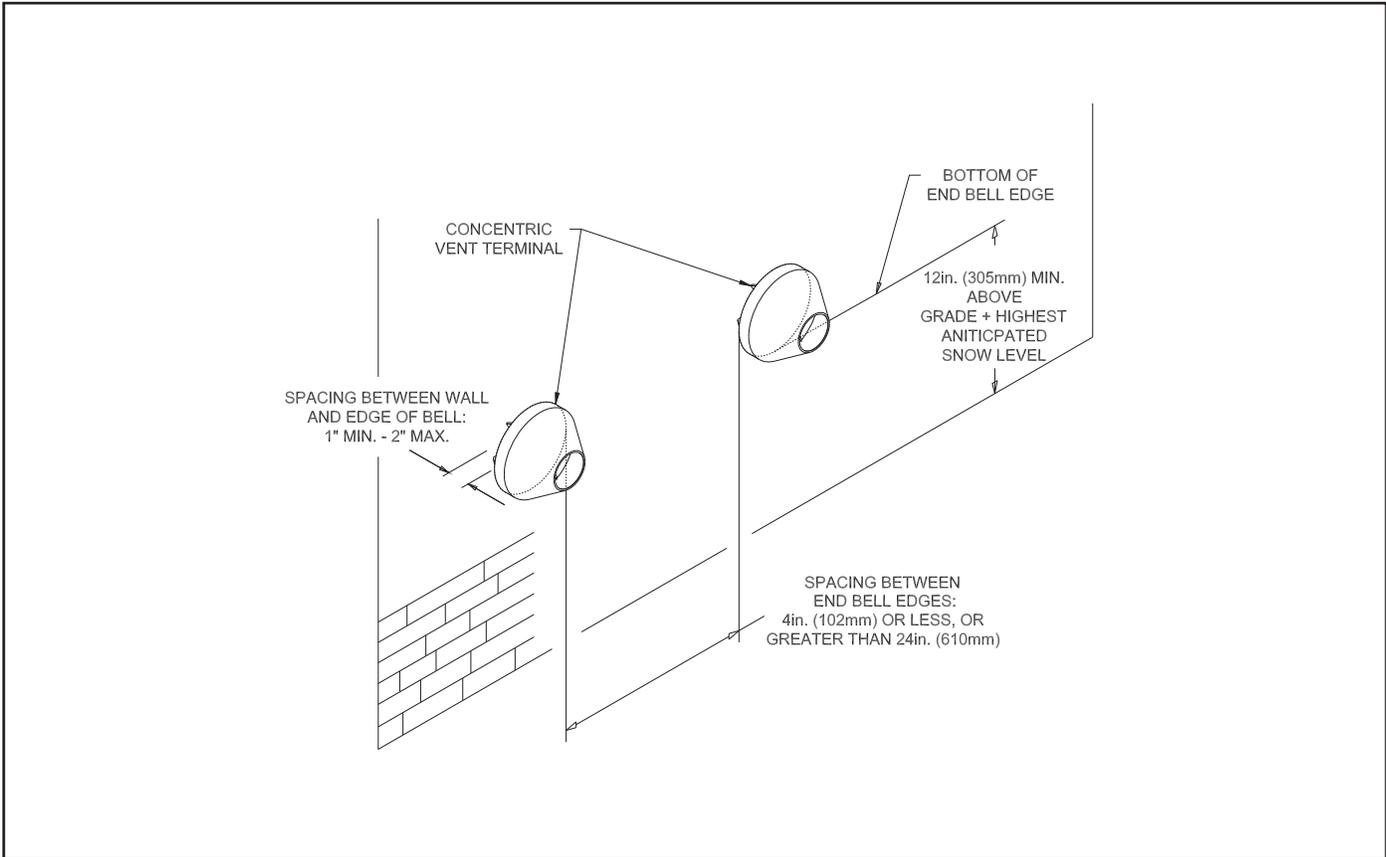

FIGURE 2.4: MULTIPLE BOILER HORIZONTAL VENTING WITH CONCENTRIC VENT TERMINALS
- Horizontal IpeX or Diversitech Concentric Terminals (Figure 2.4) – At their closest point adjacent “bells” must either be within 4” of each other OR greater than 24” apart as shown in Figure 2.4.